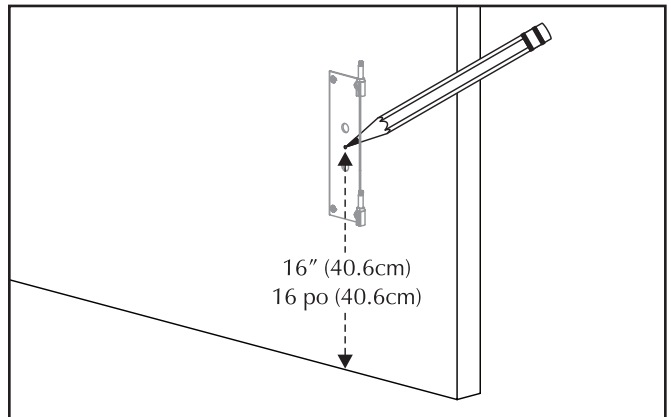

Figure 3. Step 3
- 3 At the desired installation location, mark a point on your wall 16 inches (40.6cm) above the floor (see figure 3).